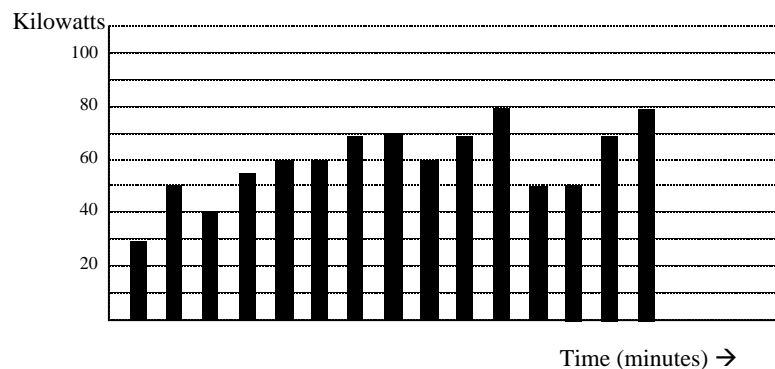

Figure 1.7: Power Use Over Time
- Figure 1.7 shows a graph of power and the resulting energy that would be transmitted as a result of the illustrated power values. For this illustration, it is assumed that the power level is held constant for each minute when a measurement is taken. Each bar in the graph will represent the power load for the one-minute increment of time. In real life the power value moves almost constantly.
- The data from Figure 1.7 is reproduced in Table 2 to illustrate the calculation of energy. Since the time increment of the measurement is one minute and since we specified that the load is constant over that minute, we can convert the power reading to an equivalent consumed energy reading by multiplying the power reading times $\frac{1}{60}$ (converting the time base from minutes to hours).
As in Table 1.2, the accumulated energy for the power load profile of Figure 1.7 is 14.92 kWh.
- Demand is also a time-based value. The demand is the average rate of energy use over time. The actual label for demand is kilowatt-hours/hour but this is normally reduced to kilowatts. This makes it easy to confuse demand with power. But demand is not an instantaneous value. To calculate demand it is necessary to accumulate the energy readings (as illustrated in Figure 1.7) and adjust the energy reading to an hourly value that constitutes the demand.